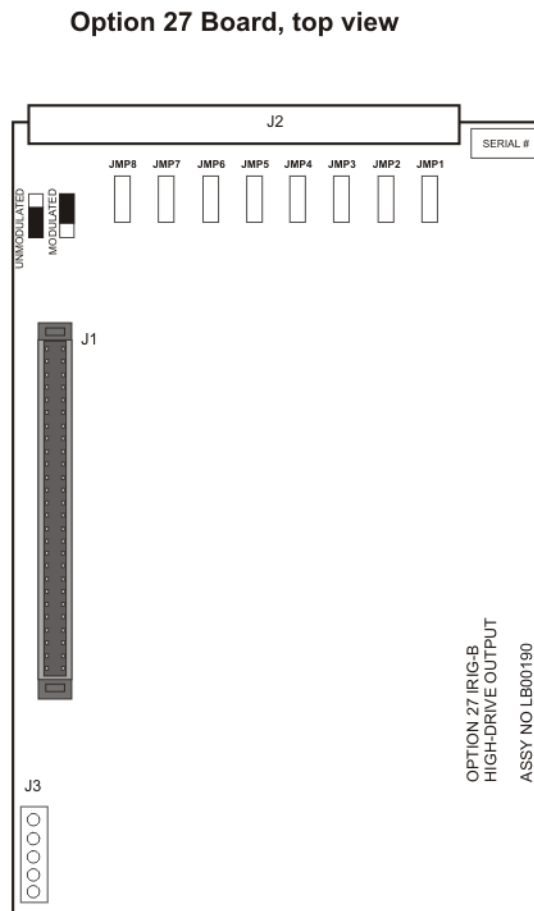

Figure C.25: Option 27 Jumper Locations
Option 27 provides eight independent, IRIG-B buffered outputs, each capable of driving multiple loads. Outputs are short circuit and surge protected. Each output is individually configurable for either modulated or unmodulated IRIG-B signals via jumper settings as illustrated in Figure C.25.
**Output Selection** Each output is jumper selectable for either a Modulated or Unmodulated signal. See Figure C.25 for jumper locations and configuration settings.